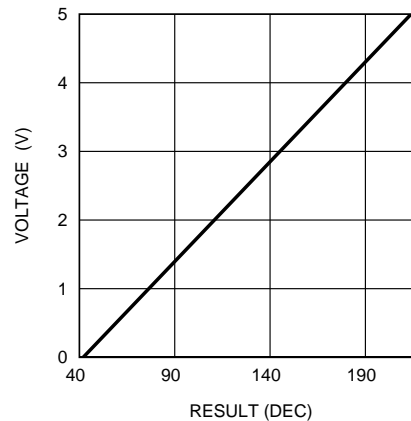

Figure 24. LED Test Results vs Measured Voltage
- This is used to store the LED test result. Read-only register. LED test ADC's least significant bit corresponds to 30 mV. The measured voltage V (typical) is calculated as follows: $V = (\text{RESULT}(\text{DEC}) \times 0.03 - 1.478 \text{ V})$. For example, if the result is 10100110 = 166(DEC), the measured voltage is 3.5 V (typical). See Figure 24.